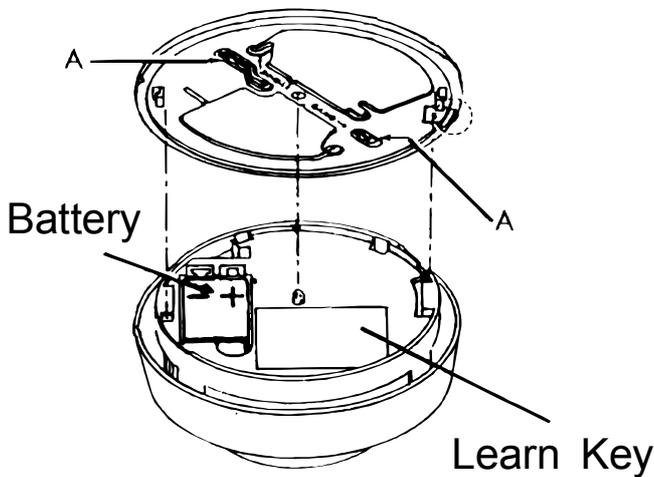

Fig. 28: Radio Smoke Detector
2. Insert the battery with the indicated polarity until the battery connection terminals clearly click in (refer to Fig. 28). Important: Ensure correct polarity.